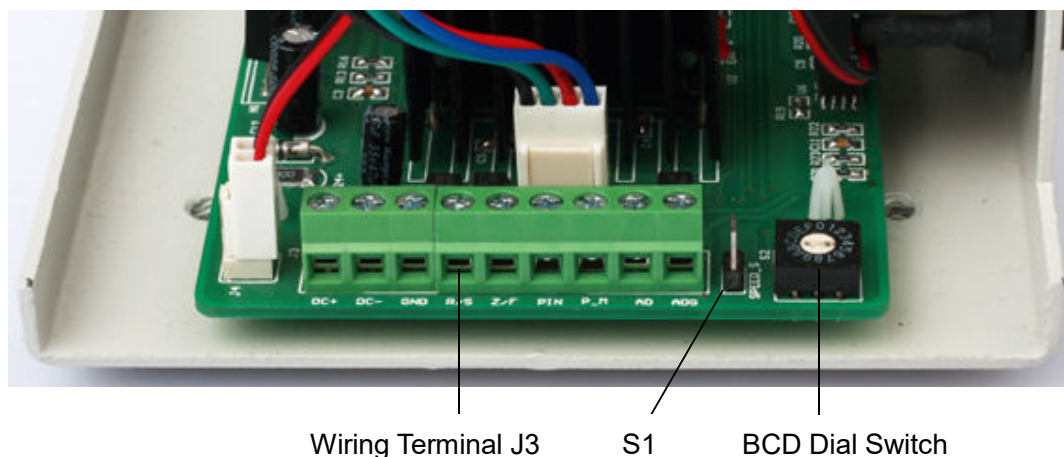

Figure2
The power supply requirement is DC 24V and power $\geq 80W$. For the power supply terminal position, please refer to Figure 2 and Table 2 for T600-S300/S301/S302/S303, Figure 3 and Table 4 for T600-S500.
Figure 2 shows BCD dial switch, S1 and wiring terminal on control board. Refer to Table 2 for wiring terminal definition.
- 2) Connect the power supply and necessary control signal wire according to Figure 2 and Table 2.